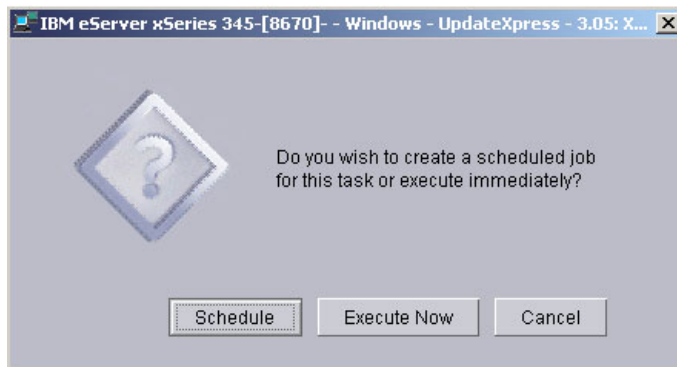

Figure 7-18 Update question to schedule or execute now
18. You will be presented with the question in Figure 7-18. Click **Schedule** if you want to schedule the firmware upgrade for another time, or click **Execute Now** if you want to update the firmware immediately.